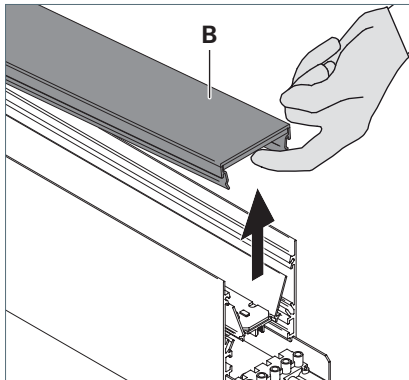

Fig. 18: Removing the cover.
- ▶ Remove the cover **B** on the side of direct light emission, see Fig. 18.